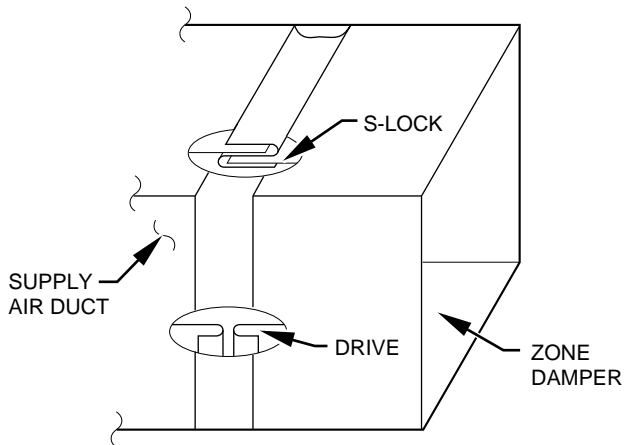

Fig. 3—Rectangular Metal Duct Work A92478
1. Make connections using S-lock and drives. (See Fig. 3.)